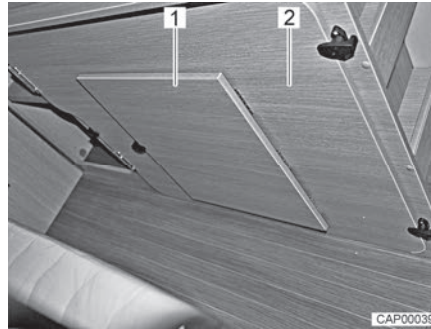

Fig. 42 Removable board on the right-hand bedding box
- Remove additional removable board (Fig. 42,2) from the right-hand bedding box in the rear.
- Fold footrest (Fig. 42,1) out on the removable board.